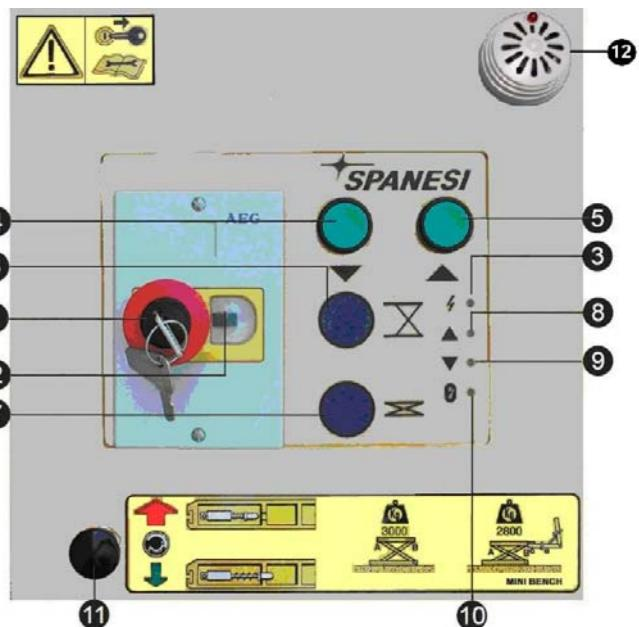

Figure 7
**Check the correct electrical connection to the supply mains as follows (see figure 7):**
- Pull the mushroom-shaped emergency button until it is released (1 - fig. 7).
- Press the reset button (2 - fig. 7) on the right of the mushroom-shaped emergency button (1 - fig. 7): the white pilot light (3 - fig. 7) will come on to indicate power on. If there is no power, check the connections.
- Press the <ascent> button (5 - fig. 7) for approximately three seconds: the lift should move upwards.